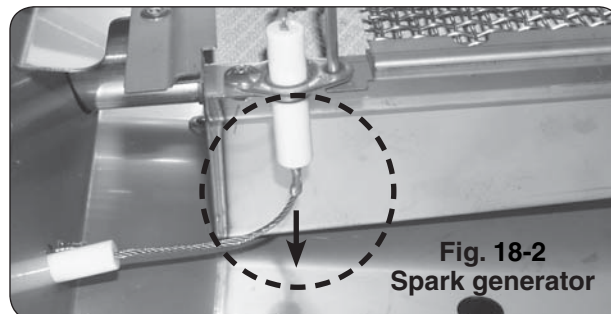

Fig. 18-2
3. Disconnect the ignitor wire from the bottom of the electrode assembly on the infrared burner (see Fig. 18-2).